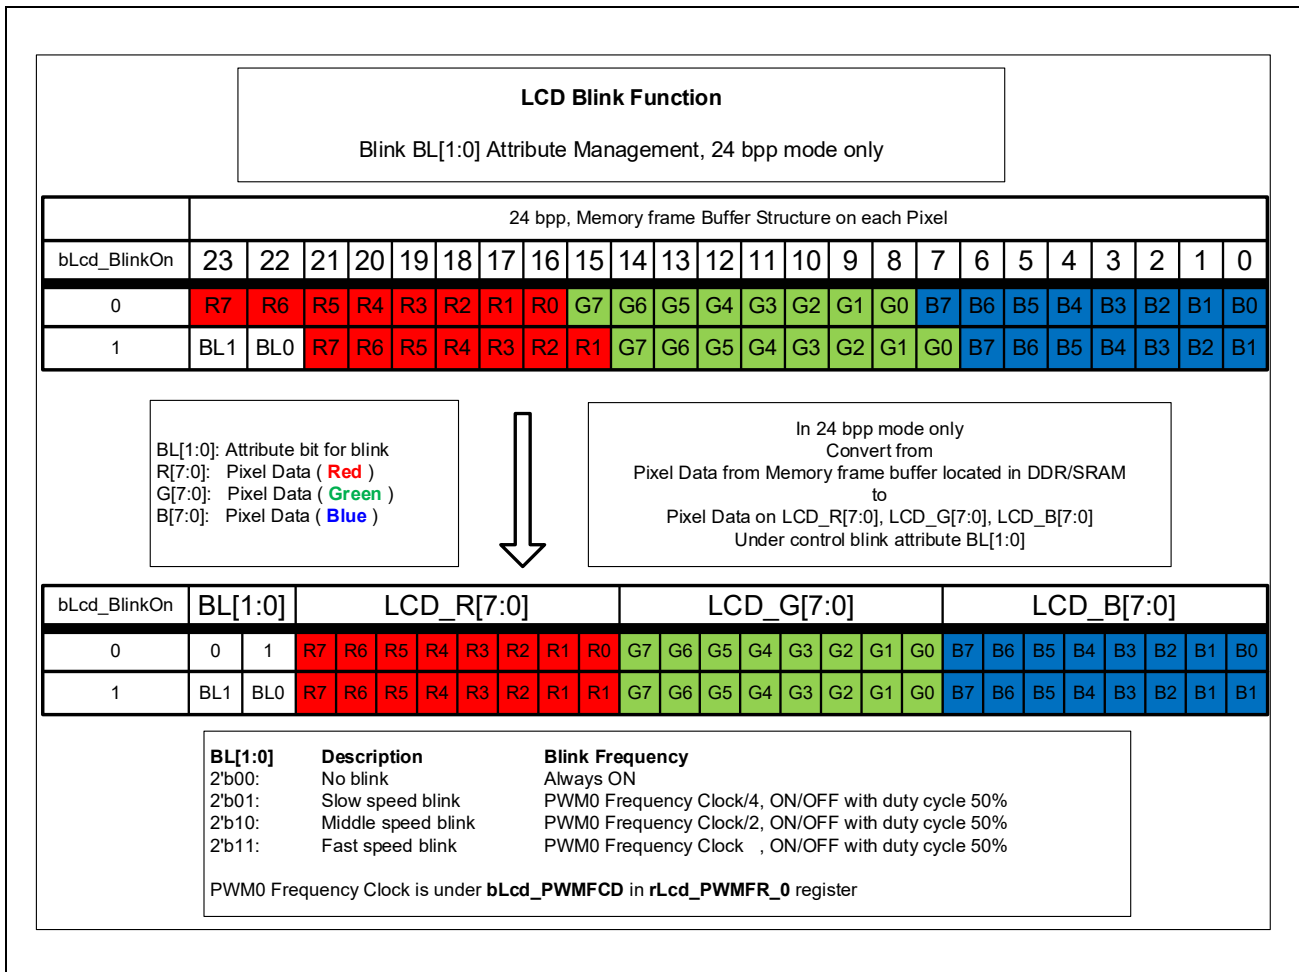

Figure 8.10 Blink BL[1:0] Attribute Management
- See **Figure 8.10, Blink BL[1:0] Attribute Management**.